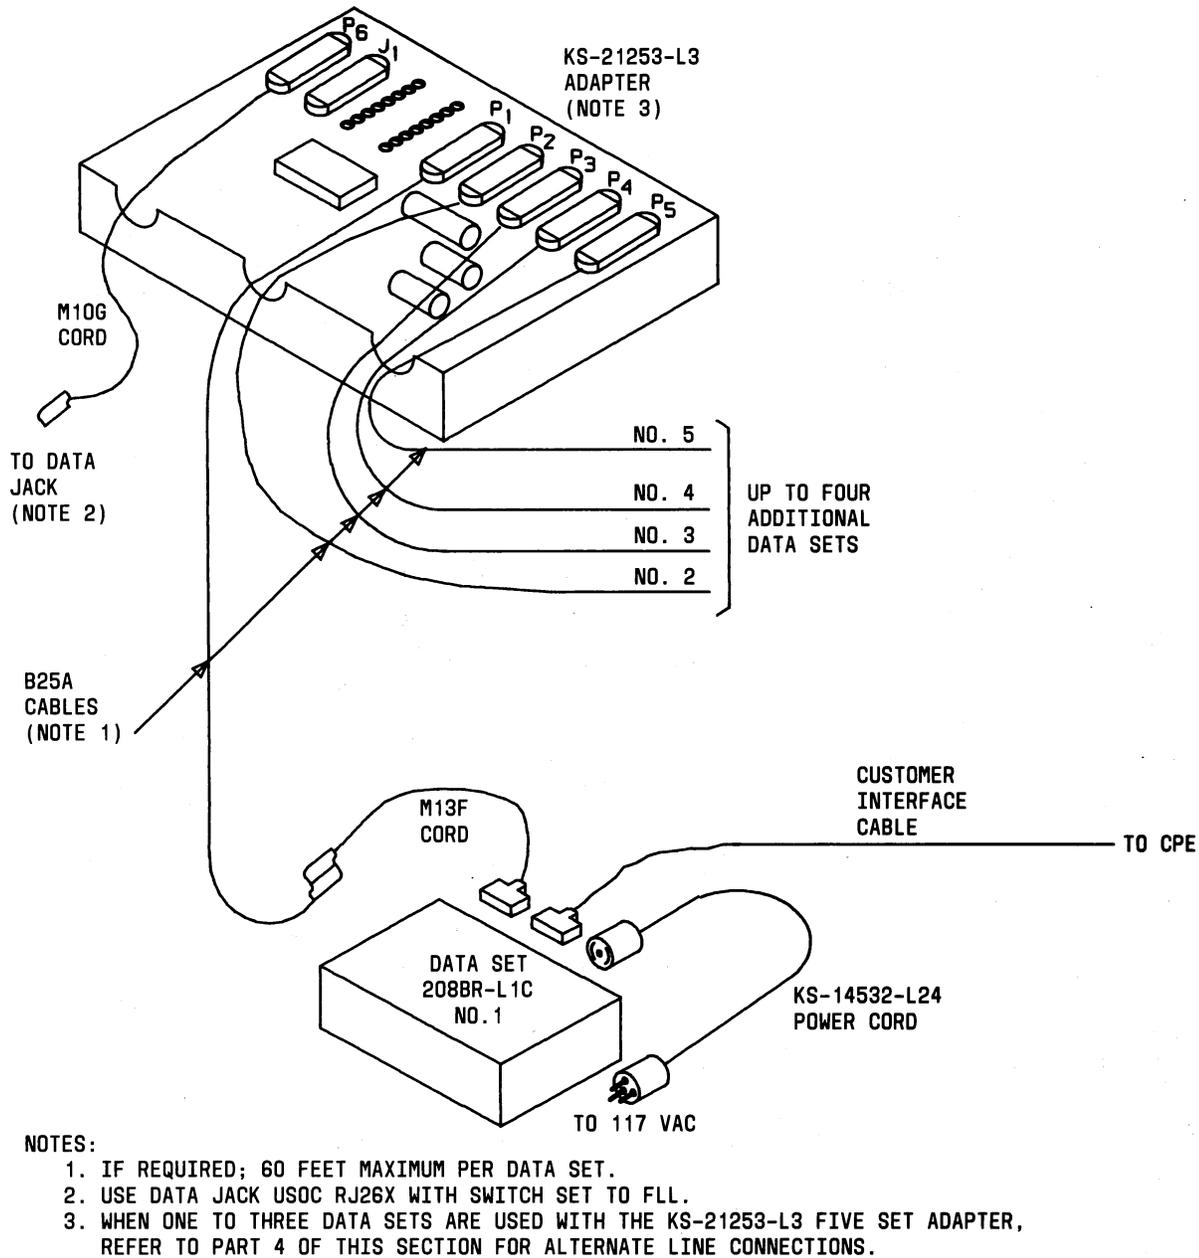

Fig. 11—One to Five Data Sets—Connection Diagram
- D4BT cord (2)—optional
**4.08 One to Five Data Sets:** The connection diagram for this arrangement is Fig. 11.